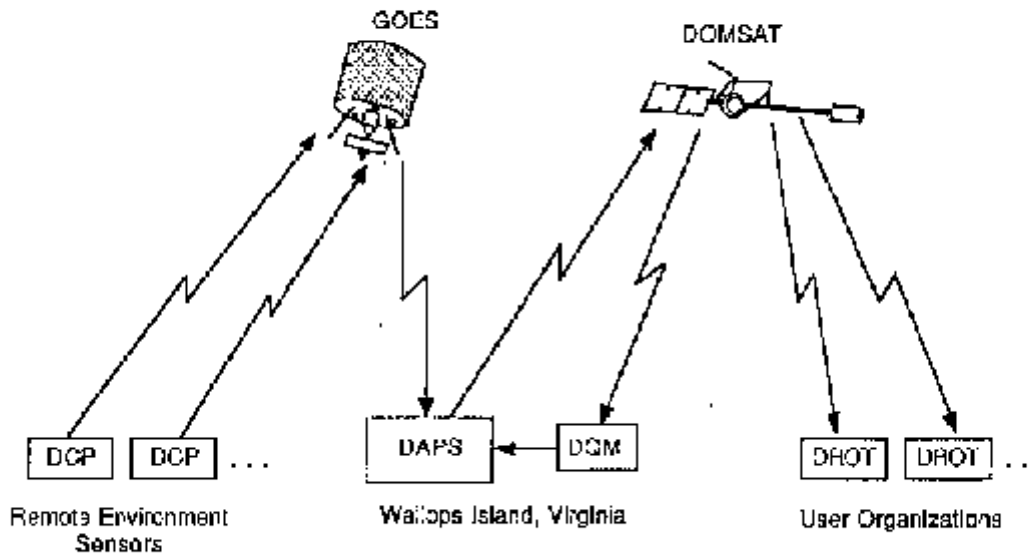

FIGURE 1-1: DATA PATH FROM DCP TO USER
Most users of the DCS will have a PC-based receiving station consisting of a satellite antenna, an industry-standard 386/PC running the UNIX(1) operating system, and custom software provided by the government. This receiving station is called the DOMSAT Receive Only Terminal (DROT). Figure 1-1 illustrates the data path from the DCP to the user's DROT.